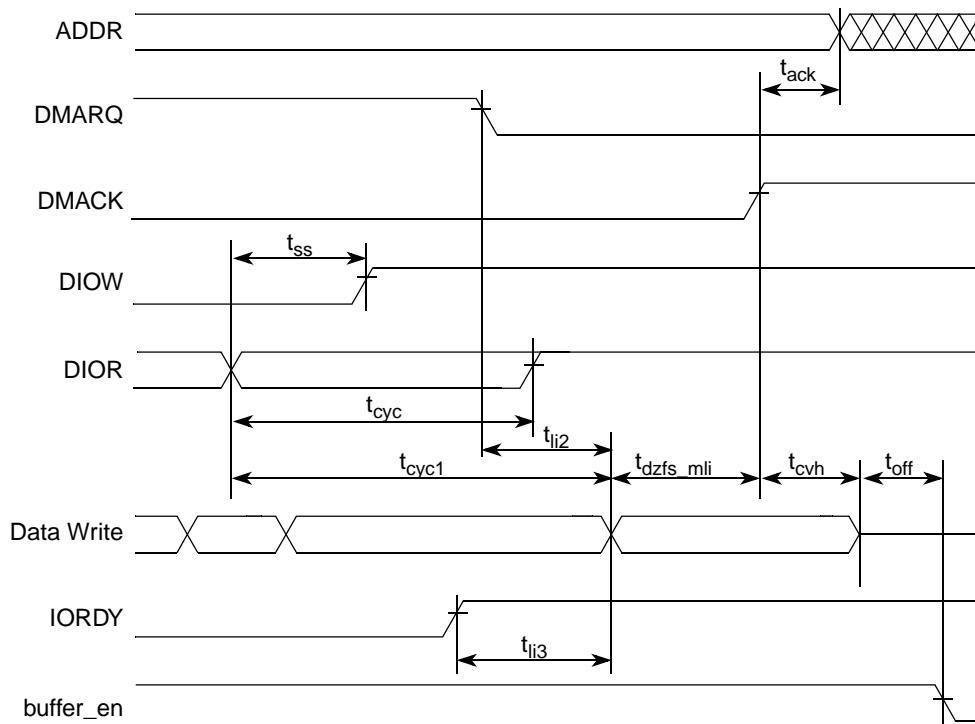

Figure 34. UDMA Out Host Terminates Transfer
- Figure 34 gives timing for host terminating UDMA out transfer